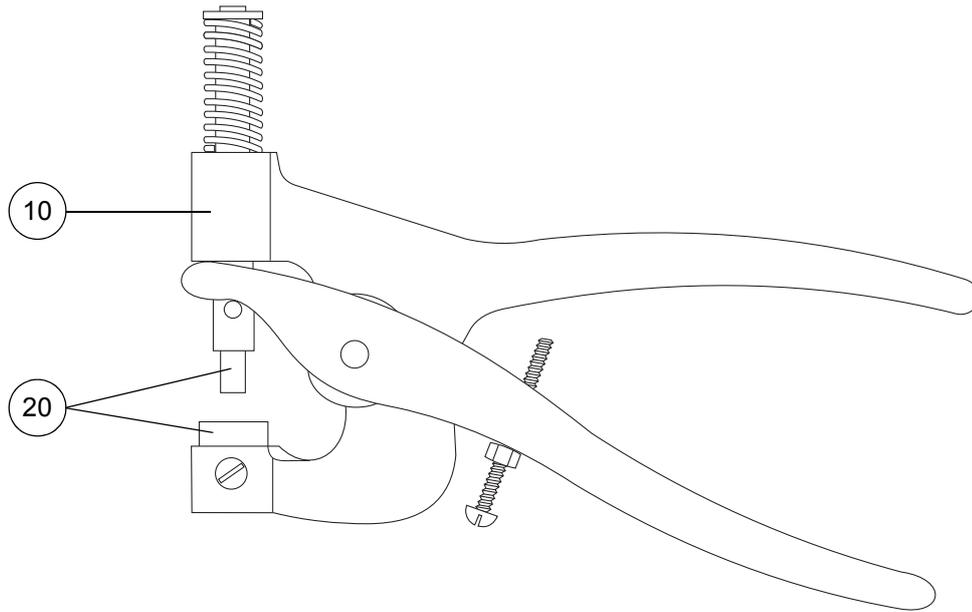

Figure 27 - Press Stud Tool
- 18.1 Make sure that the two halves of the die set (Fig 27, Item 20) are installed in the jaws of the hand press tool (Fig 27, Item 10).